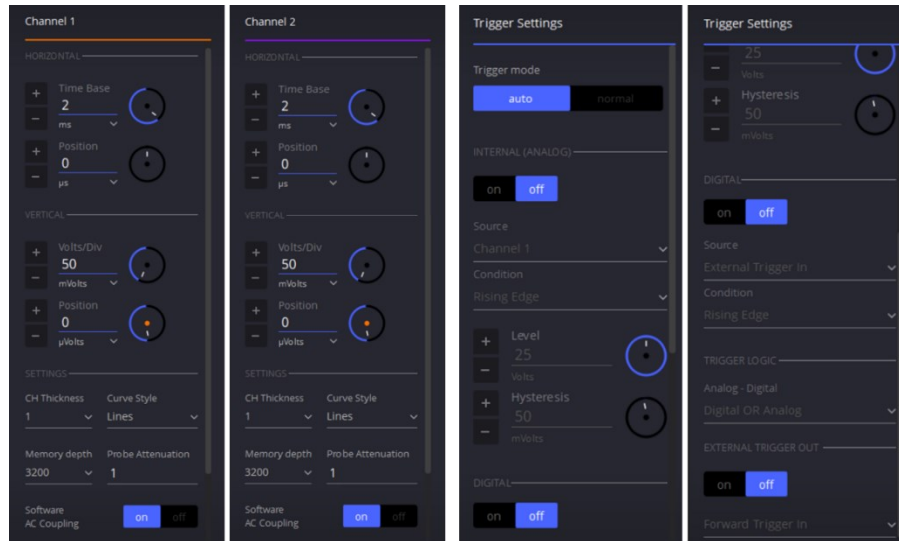

Figure 10. Channel and Trigger Settings
- Configure each channel by clicking the settings button beside the channel names. Set the vertical scale of both channel to Volts/div = 50mVolts and position = 0. Set the horizontal scale to time base = 2ms and position = 0 (horizontal scale is uniform for both channel). See Figure 10 for reference.
- Configure the trigger by clicking the settings button beside it. Turn off the trigger. See Figure 10 for reference.